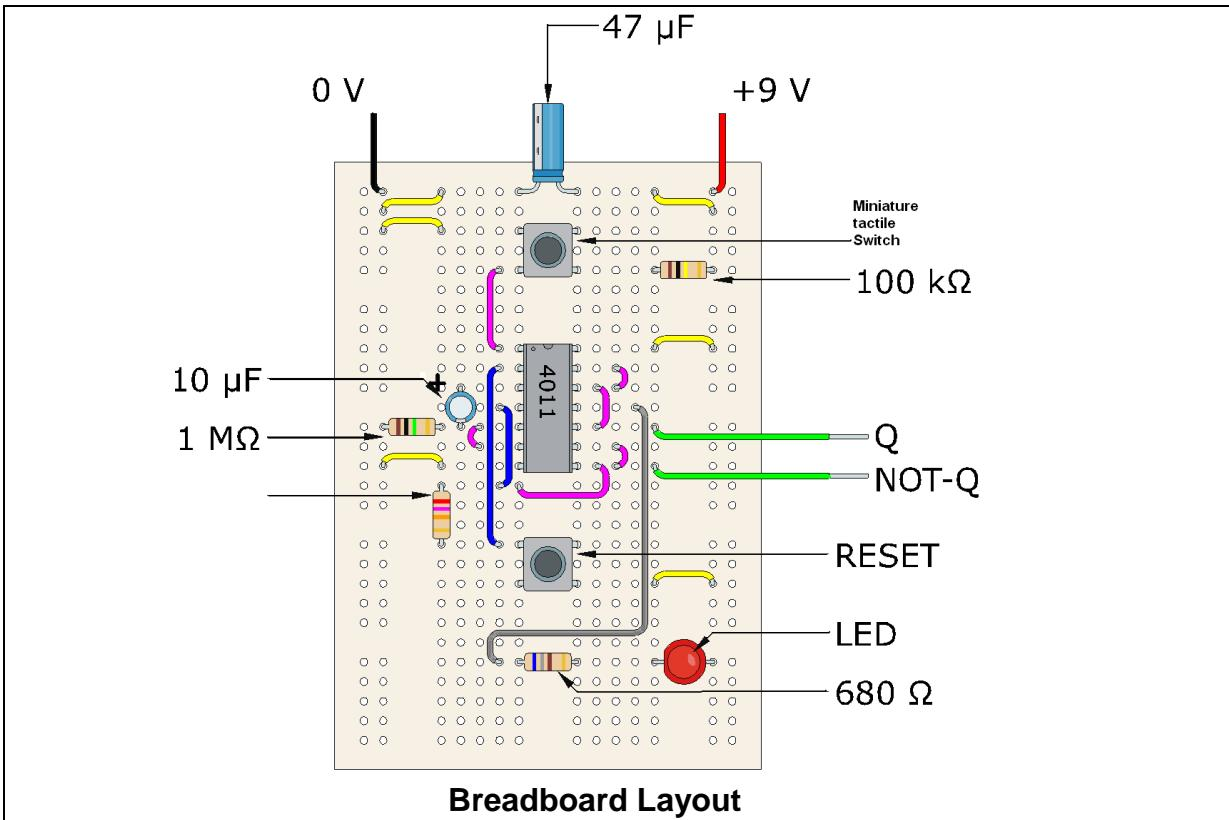

Figure 53
1. Connect the circuit as shown in Figure 53